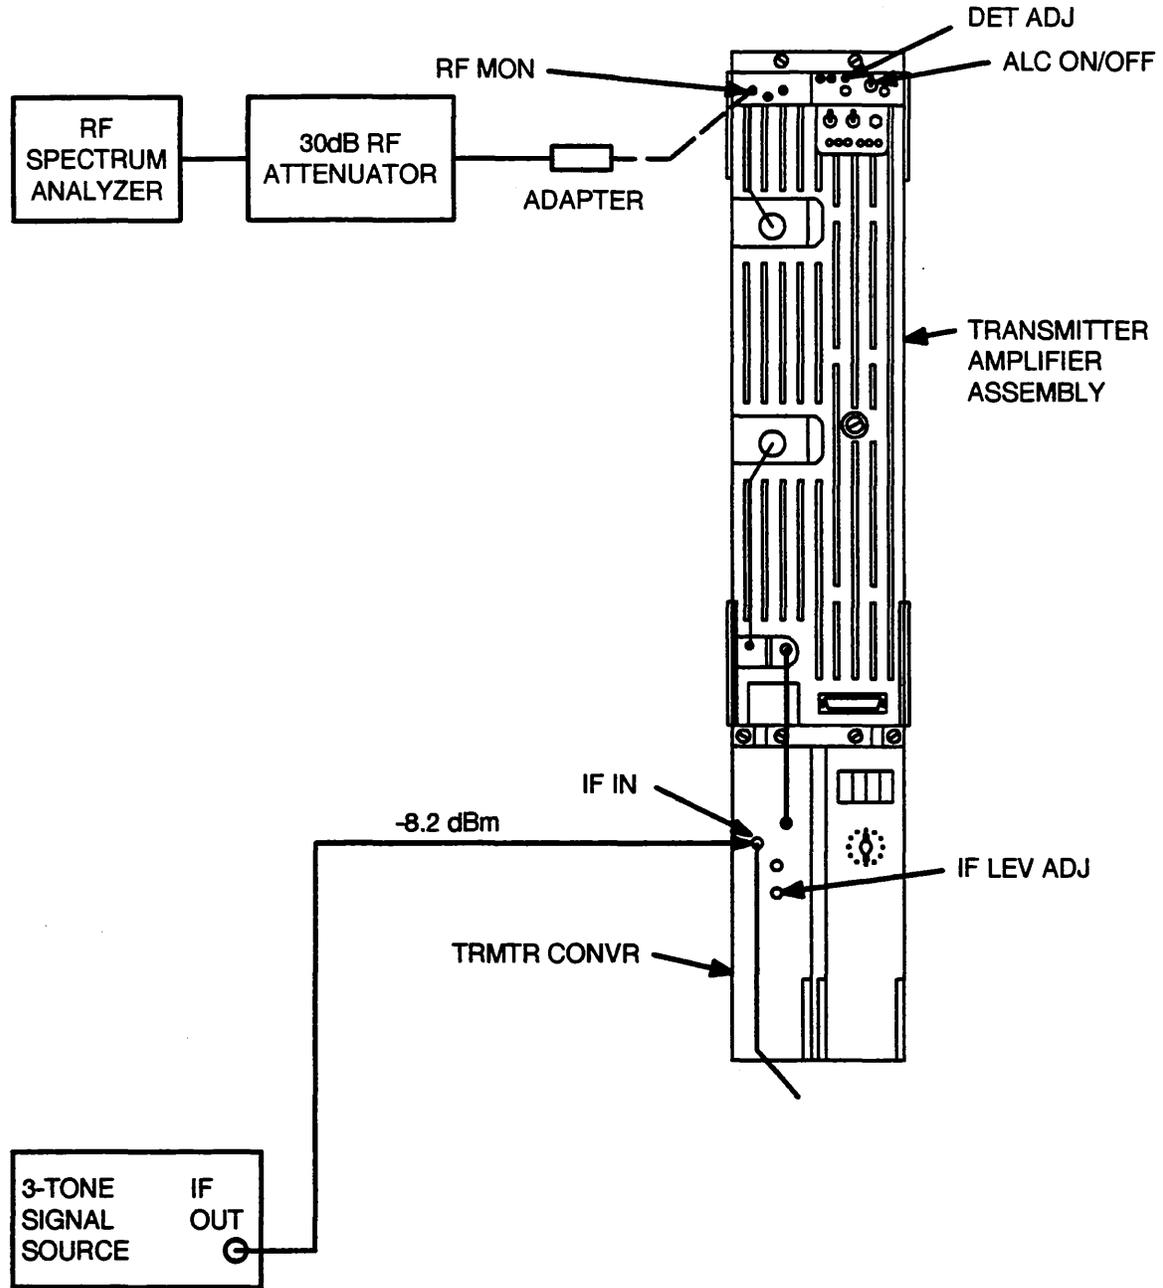

Figure 11-TWT Amplifier Linearity Test Connections With RF Spectrum Analyzer
- Refer to Figure 11.
6. Connect the test equipment per Figure 11.